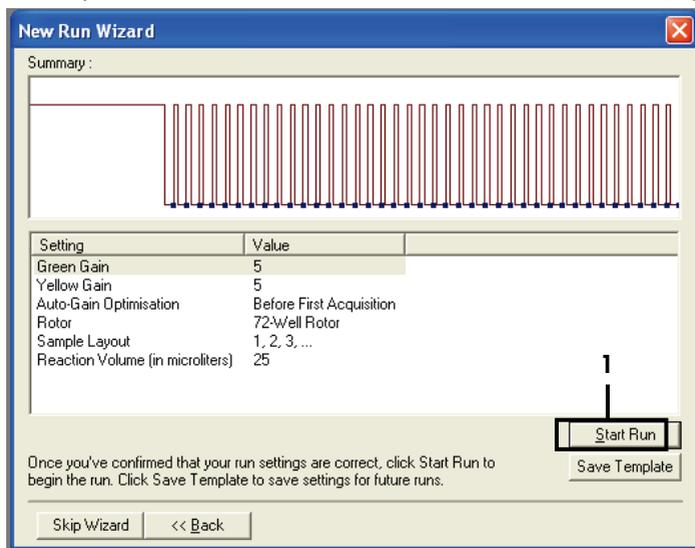

Figure 36. The “New Run Wizard” dialog box and summary screen (1 = “Start Run”).
5. Verify the summary and click **Start Run** to save the run file and start the run (Figure 36).